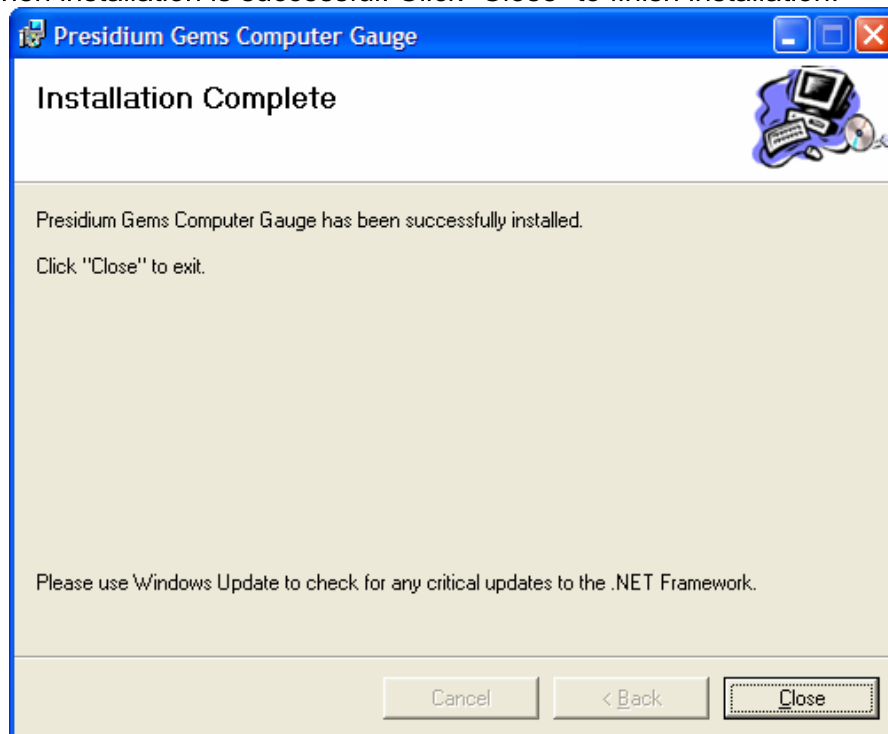

Figure 1.4
- 6) Click “Next” to initiate installation. A dialog box (Figure 1.4) will appear when installation is successful. Click “Close” to finish installation.